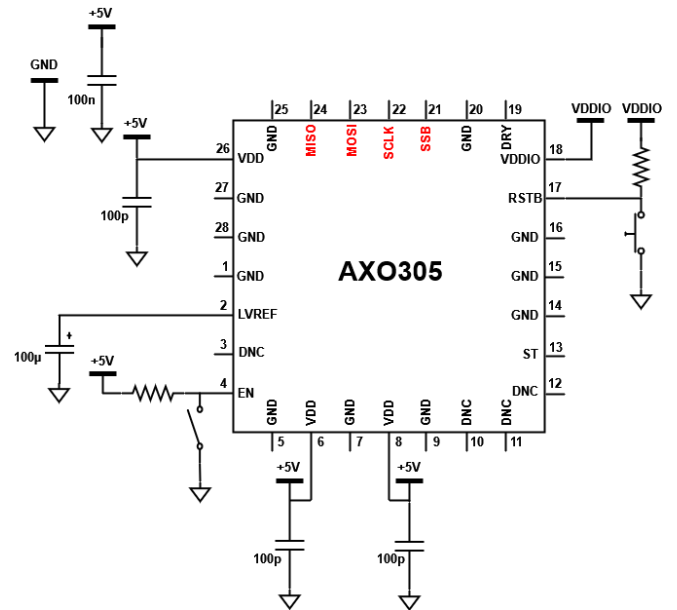

Figure 13: Recommended Application Schematic
- All capacitances of Figure 13 should be placed as close as possible to their corresponding pins, except the 100nF capacitance between VDD and GND, which should be as close as possible to the board's supply input.